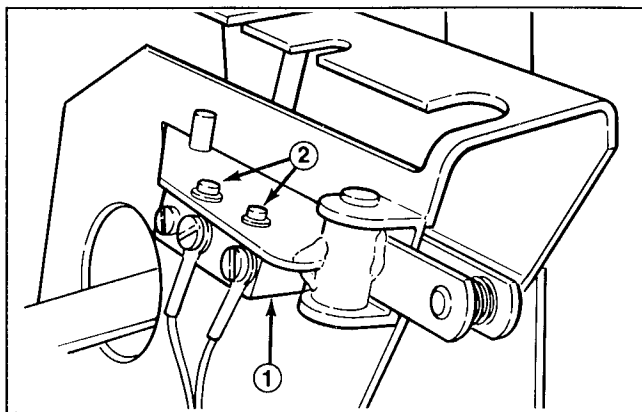

Figure 22
2. Check clutch switch (Fig. 22) with a continuity tester or ohm meter and replace if damaged. The switch must be closed when the gear shift lever is in a gear. The switch must open when shifting between Neutral, First, and Second gears.